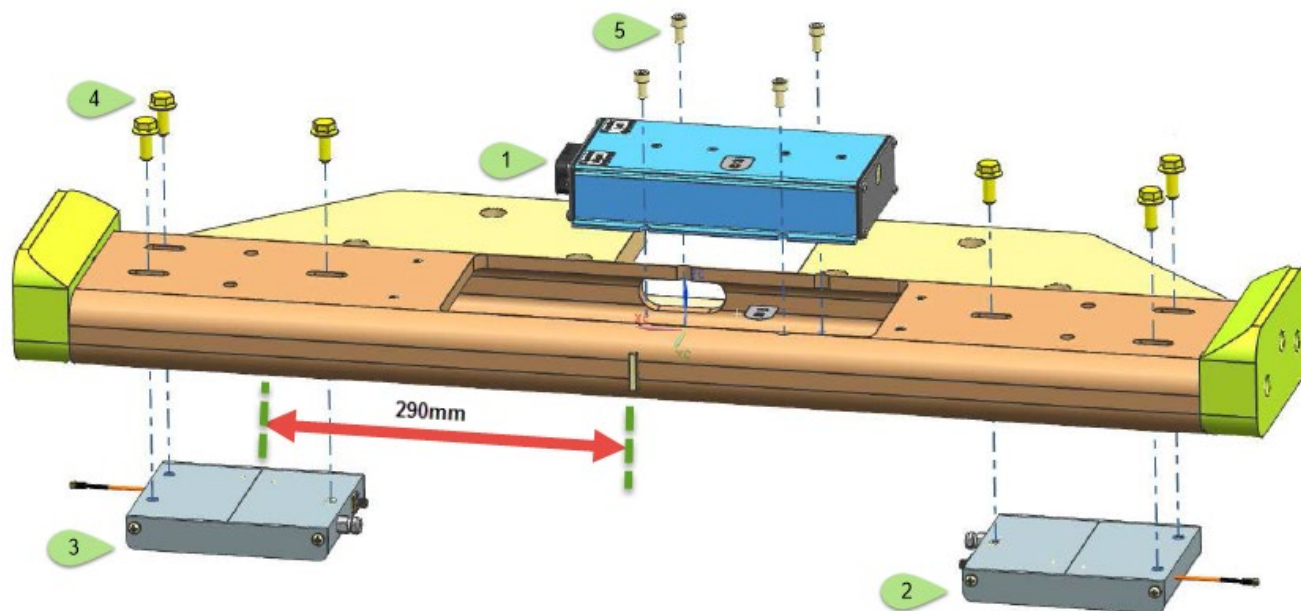

Figure 1 - Bumper Assembly
- Secure the antennas ensuring that the measuring groove located on the top of the antenna is **290mm** [Figure 1] from the center of the bumper
3.2.1.1 Part Numbers & Torque Settings [Figure 1]